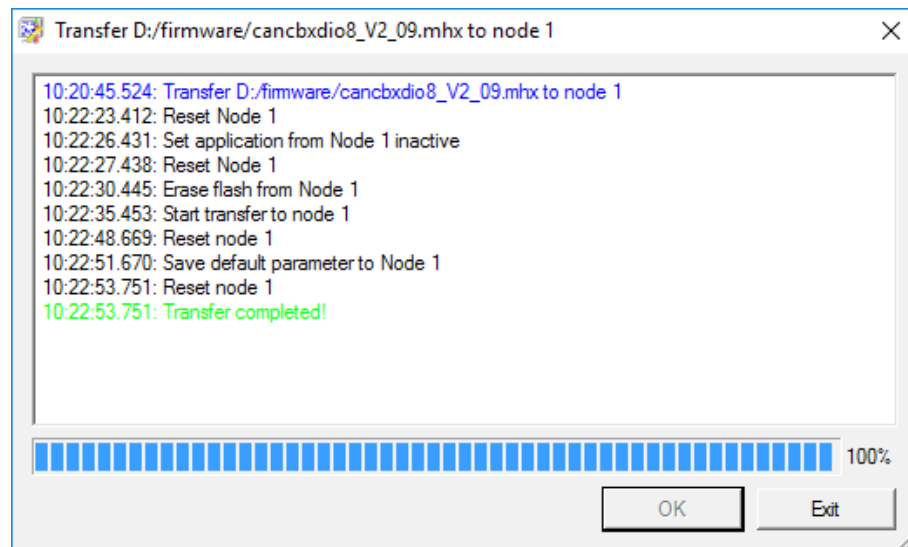

Figure 11: Transfer progress
14. During the update process the following steps will be executed automatically, as shown in Figure 11. No user interaction is necessary!